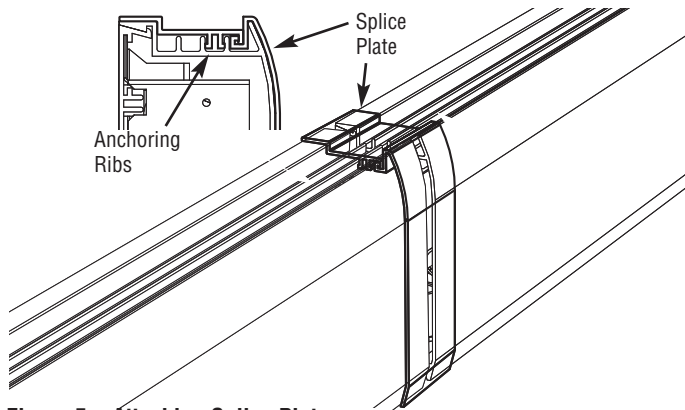

Figure 5 – Attaching Splice Plate
- Position the splice plate on top of the heater(s) and press anchoring ribs down between the outlet louvers (Figure 5). If necessary, protect the top of the splice plate with a block of wood and tap the splice plate gently into place.